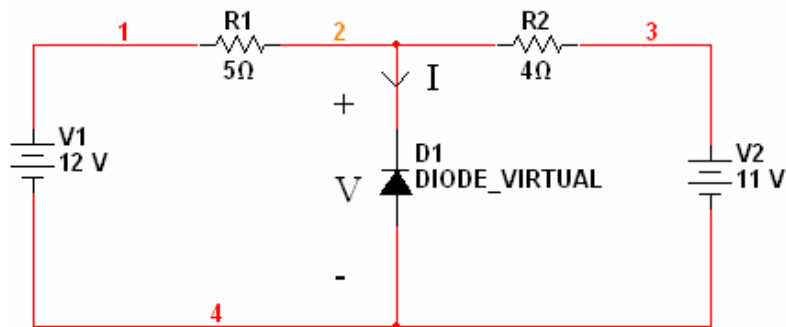

Figure 16. Circuit for problem 2
2. Determine the voltage across and current through the diode in figure 16. Assume the diode is ideal.